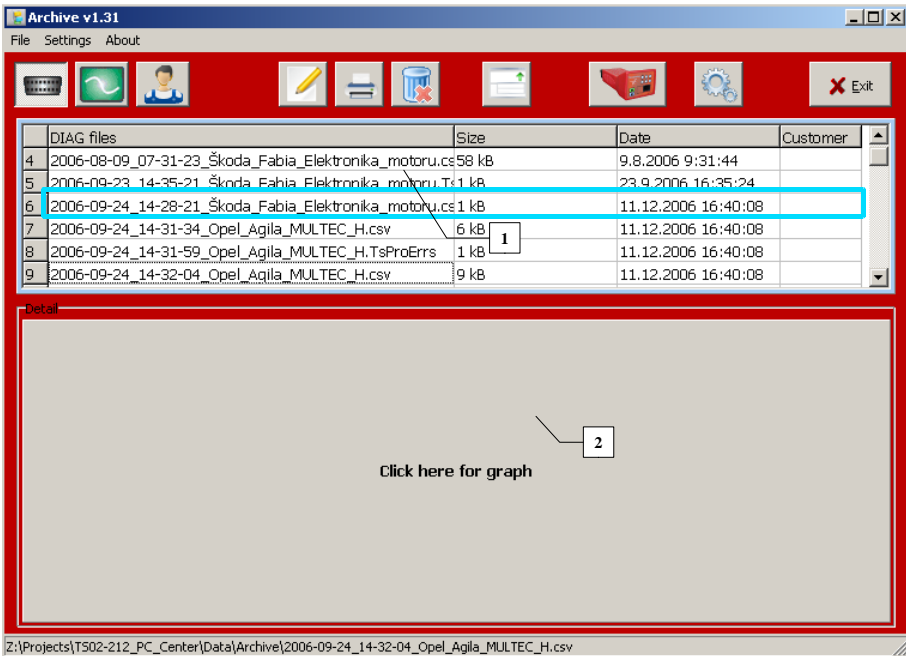

Figure 6.3
If you want to use the diagnostic data database, click on the Diagnosis icon (1). The list of saved records appears in the window (1) (Figure 6.3). Every item in this list contains the name and size of the file, date and time of creation and an identification number of the assigned customer (U1, U2, ...). The content
Items ending with \*.csv contain a graph of measured values; you can view it by clicking the lower part on the screen (*Figure 6.3 - 2*)